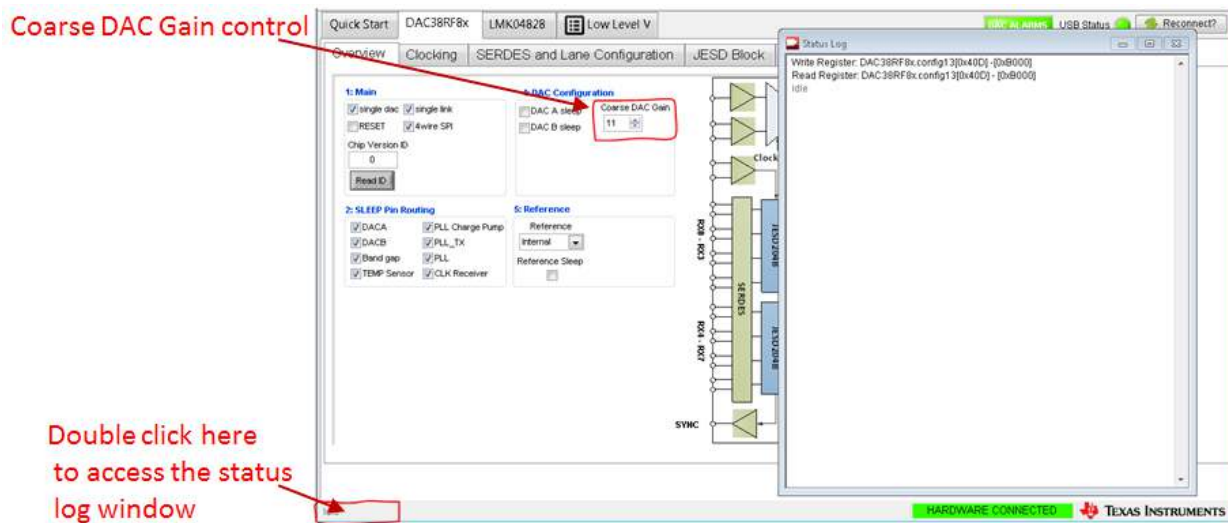

Figure 16. DAC38RF8xEVM GUI Status Log
The status log can be used to determine information about the register address and data of every control on the EVM GUI. To access the status log, double click inside the lower left corner of the EVM GUI as shown in Figure 16. In the following example, the *Coarse DAC Gain* control on the EVM GUI will be used to show how to use the status log:
- Bring up the status log by doubling clicking inside the lower left corner of EVM GUI (Figure 16). Once opened, right click anywhere inside the status log window and select "clear log" to clear the log window.